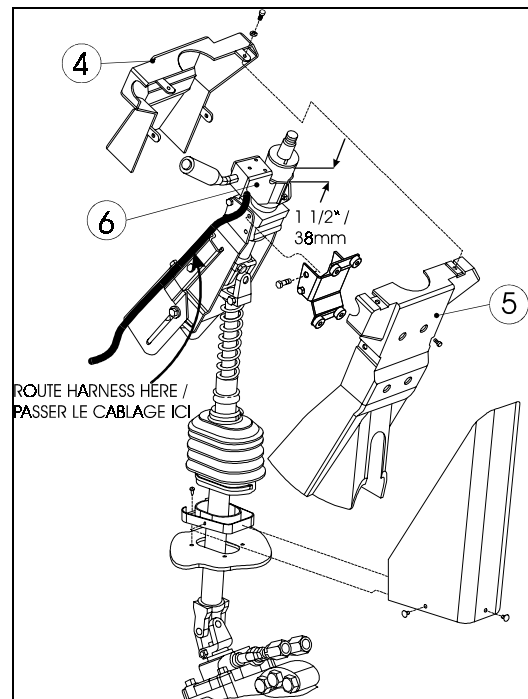

FIGURE 3
1. Remove the steering column covers (items ④ & ⑤ figure 3).
3. Remove the present multi-function lever support (item ⑥ figure 3) and unplug connectors C258 and C259.
5. Plug connectors C258 and C259 of lever harness. Route harness as shown in figure 3.
6. Temporarily fix the lever support on the steering column at 1 1/2" (38mm) from the top (see figure 3).
7. Using steering column covers ④ & ⑤, check the correct positioning of the multi-function lever. Readjust if necessary and tighten the screws.